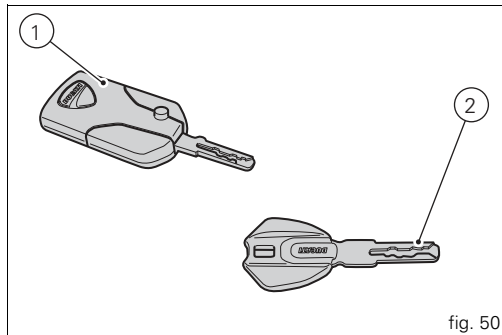

fig. 50
### Keys (fig. 50)
- 1 active key (1, fig. 50)
- 1 passive key (2, fig. 50)
Do not ride with the key (1 or 2, fig. 50) inserted in the lock of the tank cap or in the seat lock as it could come out and represent a potential danger. Furthermore, if bumped, the key mechanism and the integrated circuit could be damaged.